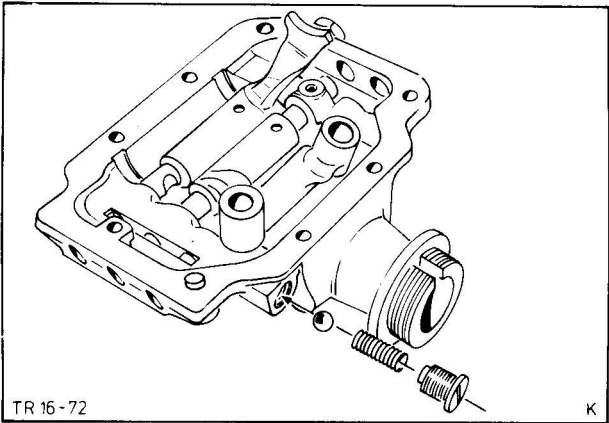

Fig. 114. Selector detent mechanism exploded
1. Remove threaded plug of selector detent. Take out spring and ball, Fig. 114.